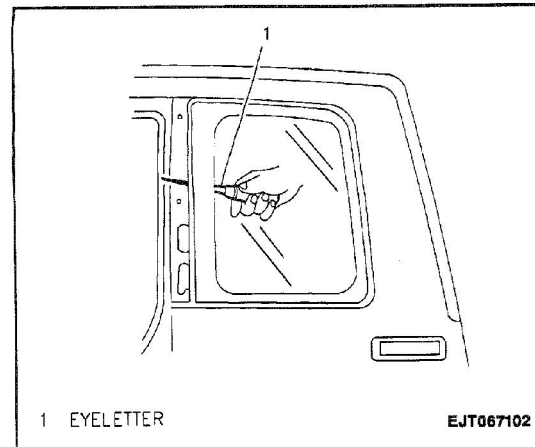

Figure 15—Opening Quarter Window Adhesive for Piano Wire
4. Punch hole through adhesive with eyeletter (Figure 15) and slip piano wire through adhesive.